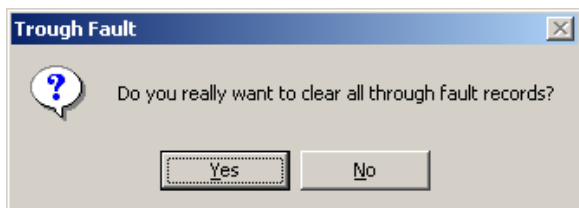

Figure 2-24 Clear Through Fault Record Confirmation Screen
1. From the IPScom® Main Screen menu select **System/Through Fault/Clear**. IPScom will display the Clear Through Fault record confirmation screen (Figure 2-24).